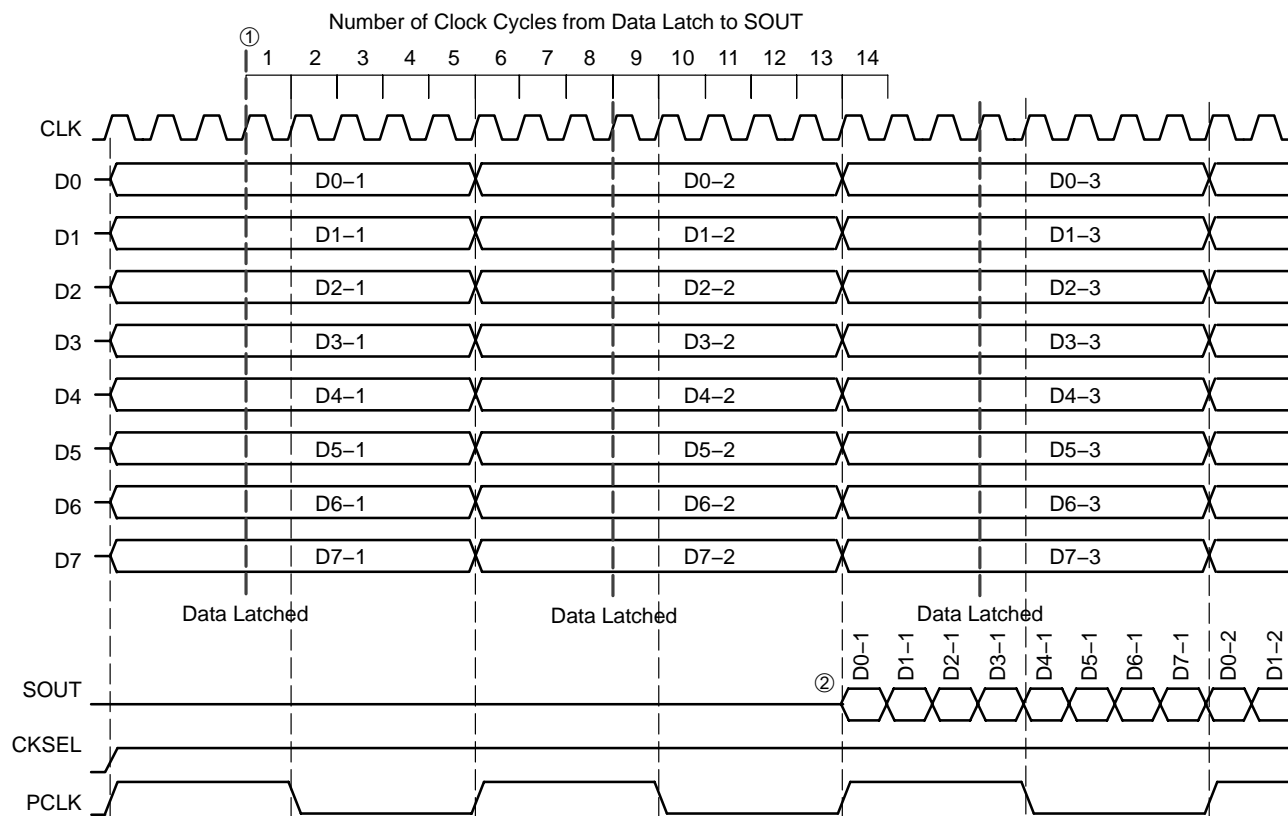

Figure 7. Timing Diagram 1:8 Parallel to Serial Conversion with CKSEL HIGH
Similarly, for CKSEL HIGH operation, the time from when the parallel data is latched ① to when the data is seen on the SOUT ② is on the rising edge of the 14th clock cycle plus internal propagation delay (Figure 7). Furthermore, the PCLK switches on the rising edge of CLK.